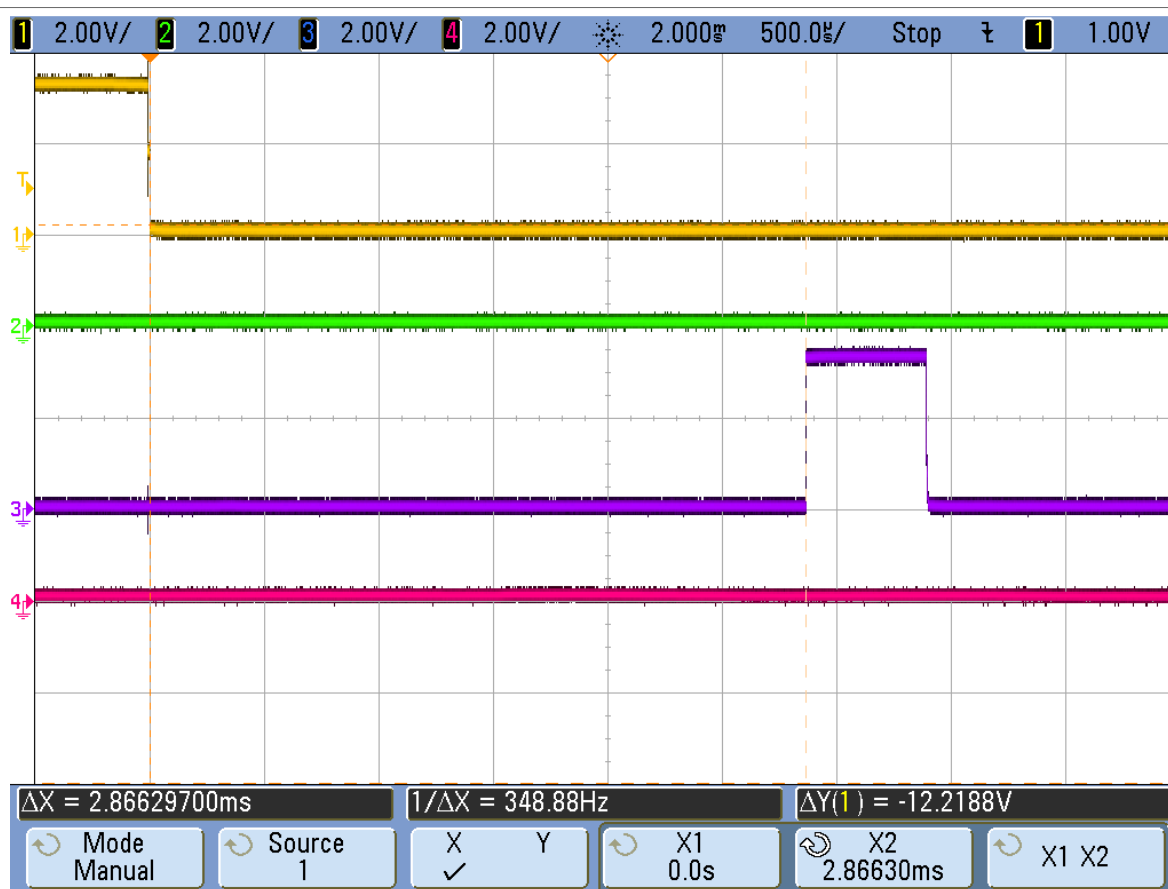

Figure 7. Wake-up time measurement for Deep power-down mode using wake-up pin
- For wake up from the Power-down mode, measure time passed on the oscilloscope between the RESETN pin going high to the P0_22 pin going high as shown in Figure 7.